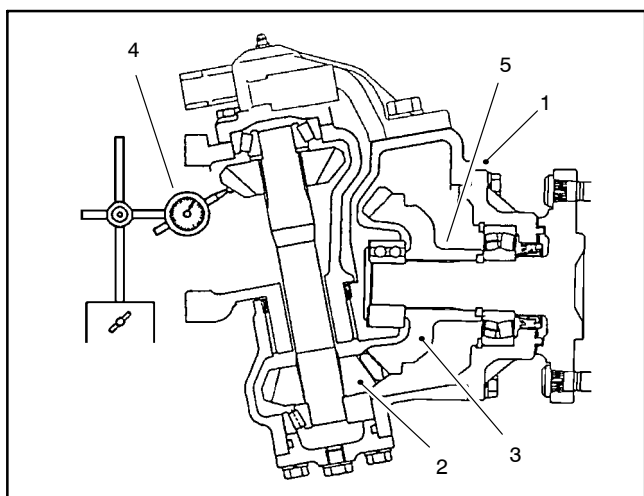

Figure 22
9. Remove the bevel gear case/axle case assembly from the axle support. Coat a new O-ring with grease and temporarily install the axle cover assembly. Position a dial indicator at the tooth's center. Prevent the axle from turning and measure the lower bevel gear to axle gear backlash (Fig. 22).